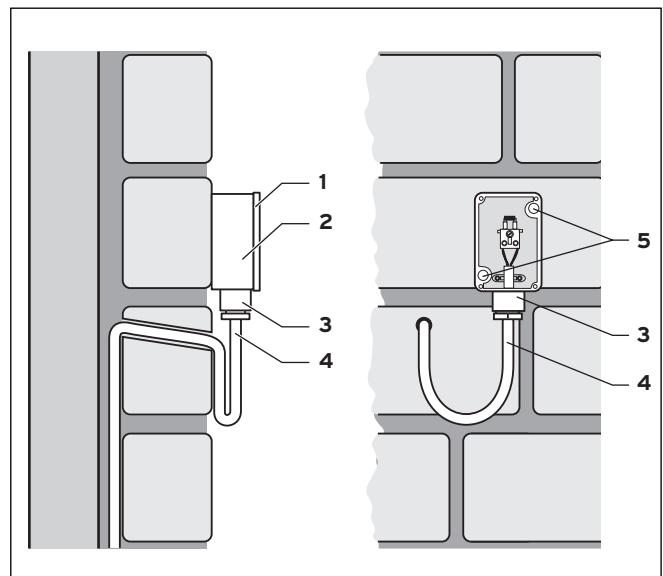

Fig. 4.2 Fitting the external sensor VRC 693
- ⇒ Connect the connection cable to the terminals on the external sensor as per Fig. 4.2.